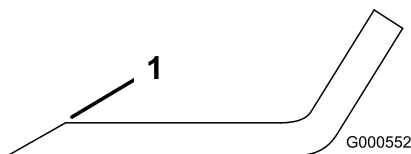

Figure 94
1. Use a file to sharpen the cutting edge at both ends of the blade (Figure 94).
Note: If the blade is not balanced, file some metal off the end of the sail area only (Figure 94).